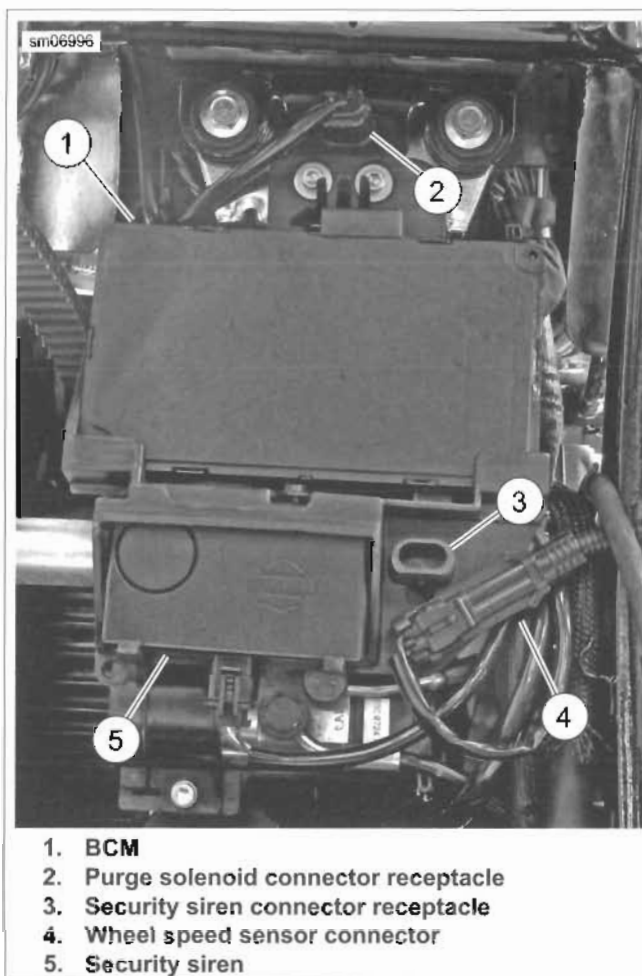

Figure 2-68. Body Control Module (BCM): All But FXSB
5. See Figure 2-68. Detach body control module (BCM) (1) from electrical panel and remove both electrical connectors.
2. See Figure 2-68. Connect both BCM connectors and install BCM (1) onto electrical panel.